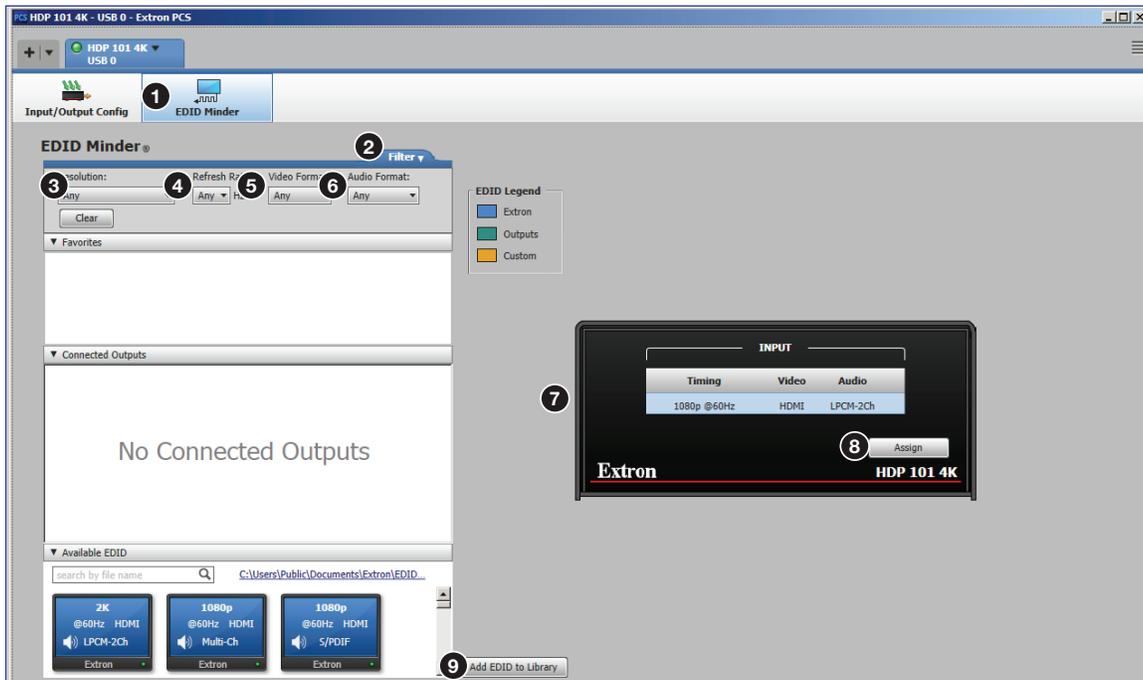
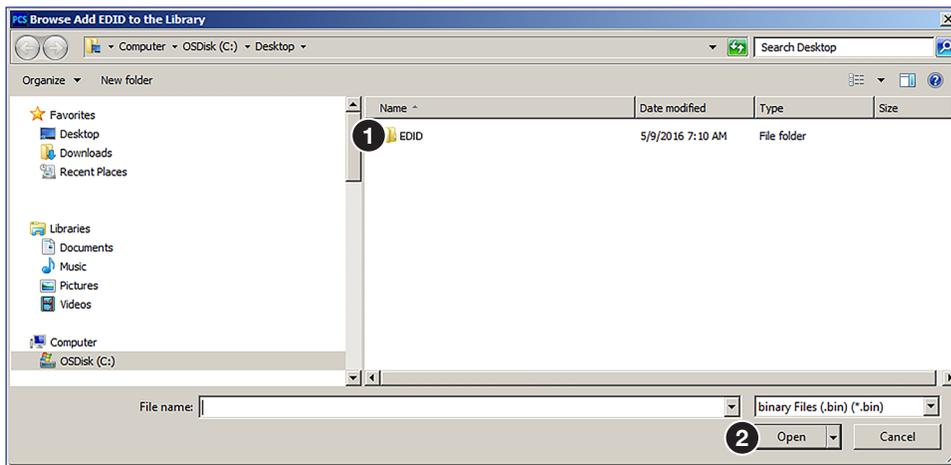

Figure 11. EDID Minder Page
Figure 12. Browse Add EDID to the Library Window
EDID Minder manages the resolution and refresh rate between the HDP 101 4K HDMI input and the DisplayPort output source. Click the **EDID Minder** icon (see figure 11, ①) on the global navigation bar to open the EDID Minder page. EDID can be set to match output rate, a custom user-defined EDID, or a factory setting.
1. From the Input box on the right (see figure 11, 7) on the previous page), select the input.
1. Click the **Add EDID to Library** button (see figure 11, 9). The Browse Add EDID to the Library window opens (see figure 12).
2. Navigate to the desired EDID file location and select it (see figure 12, 1).